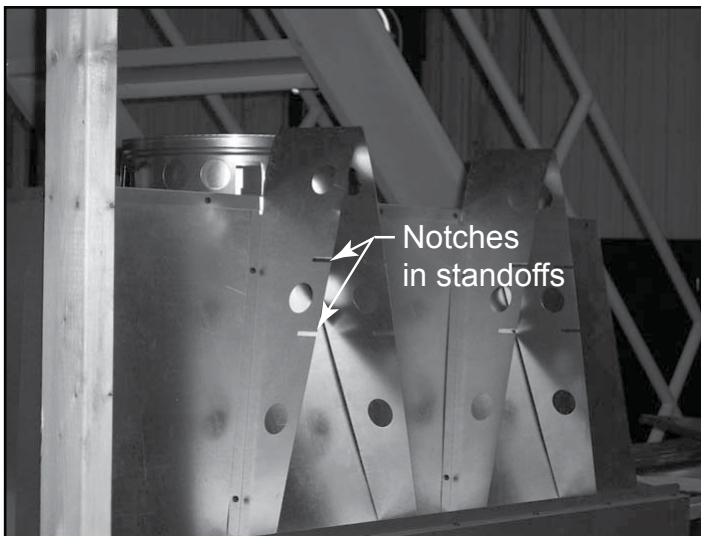
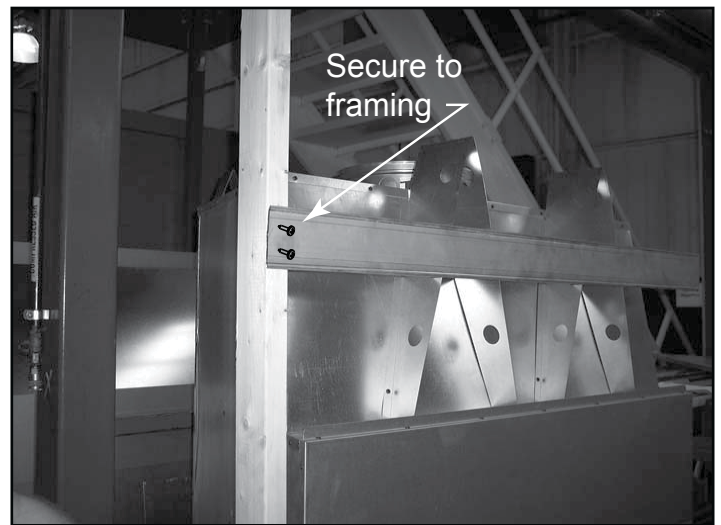

Figure 12.8 Notch in Standoffs
Figure 12.9 Secure to Framing
- Place the track into the notches (shown in Figure 12.8) on the front standoffs and secure to the framing on both sides of the fireplace (Figure 12.9).